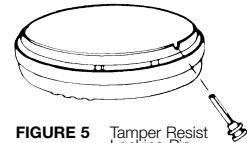

FIGURE 5 Tamper Resist Locking Pin
7. **USING TAMPER RESIST LOCKING PIN:** To make your smoke alarm somewhat tamper resistant, a locking pin has been provided in the bag with the screws and anchors. Using this pin will deter children and others from removing the alarm from the mounting plate. To use the pin, insert it into the hole in the side of the alarm after the alarm has been installed on the mounting plate (see Figure 5).
LAMP REPLACEMENT: The Safety Light has a 6.3 volt 250mA fuse type lamp (average life of 50 hours). If the Safety Light does not operate with a fresh alkaline battery, replace the lamp. To replace the lamp, remove the alarm from the mounting bracket by rotating the alarm in the direction of the "OFF" arrow on the cover (see Section 3, Figure 1 for removal, and Section 3, Figure 5 if tamper resist pin is used).